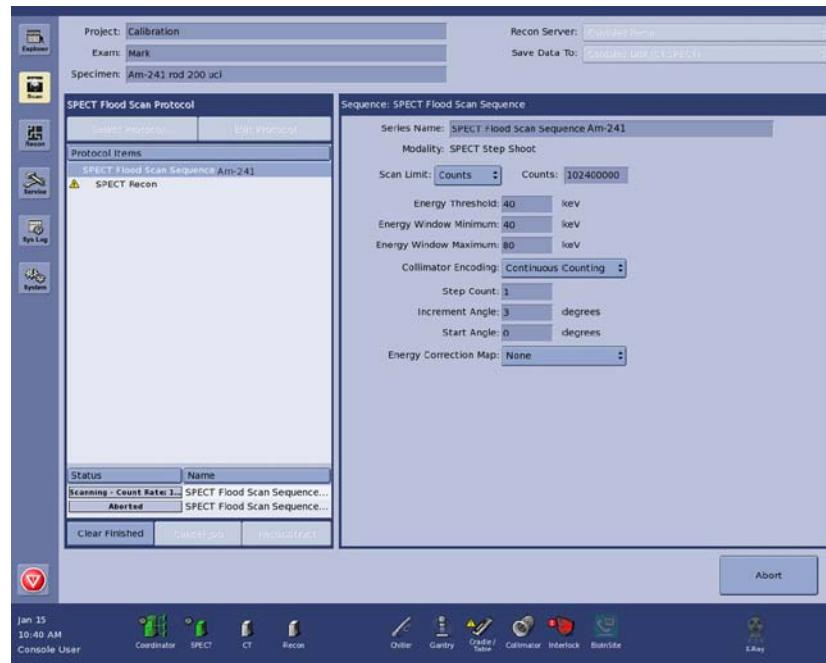

Figure 7-25
- 6.) Cover the tube opening at the block end when removing the tube from the jig to prevent the isotope from sliding out. Re-load the isotope tube with Am-241 (200 μ Ci) using the same precautions as in step 1. Change the Series Name field in the Scan page to reflect the different isotope. Change the energy threshold to 40 KeV and the energy window to 40-80 KeV, as shown in Figure 7-25, and start data acquisition (approximately 90 minutes). Check the Count Rate box on the right screen after the scan is started. For 4.0 CZT, count rate cannot be higher than 500 kcps. For 3.5 CZT, count rate cannot be higher than 200 kcps. Use less activity if the count rate is higher than the limit. A new folder will be generated and stored in the form "Scan_yyyy", where yyyy is the next number in the naming sequence. A file called SPECTAcq.dat will be stored in this new folder.